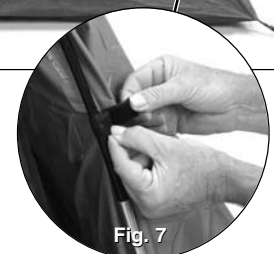

Fig. 7
3. Wrap the hook & loop fasteners around the main pole to secure (Fig. 7). There are seven fasteners located on the rainfly.